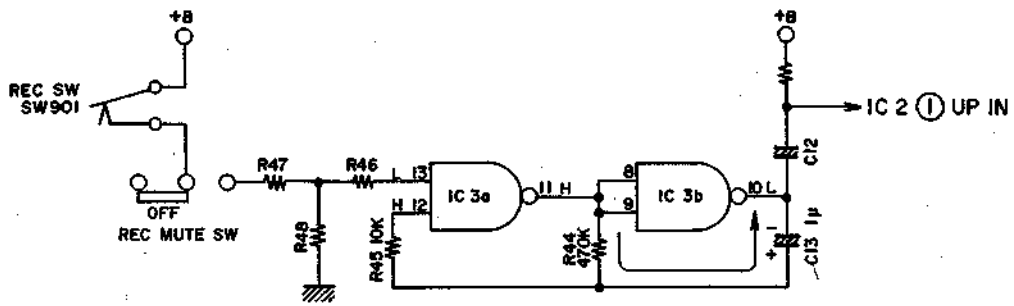

Fig. 10 Oscillation Stopped
TIME COUNT (Refer to Figs. 10 and 11)
When the Rec Mute button is not depressed, IC3a's input terminal ⑬ is "L" and IC3b's output terminal ⑩ is "L". C13 has been discharged as in Fig. 10 and IC3a's input terminal ⑫ is changed to "H" by this potential.